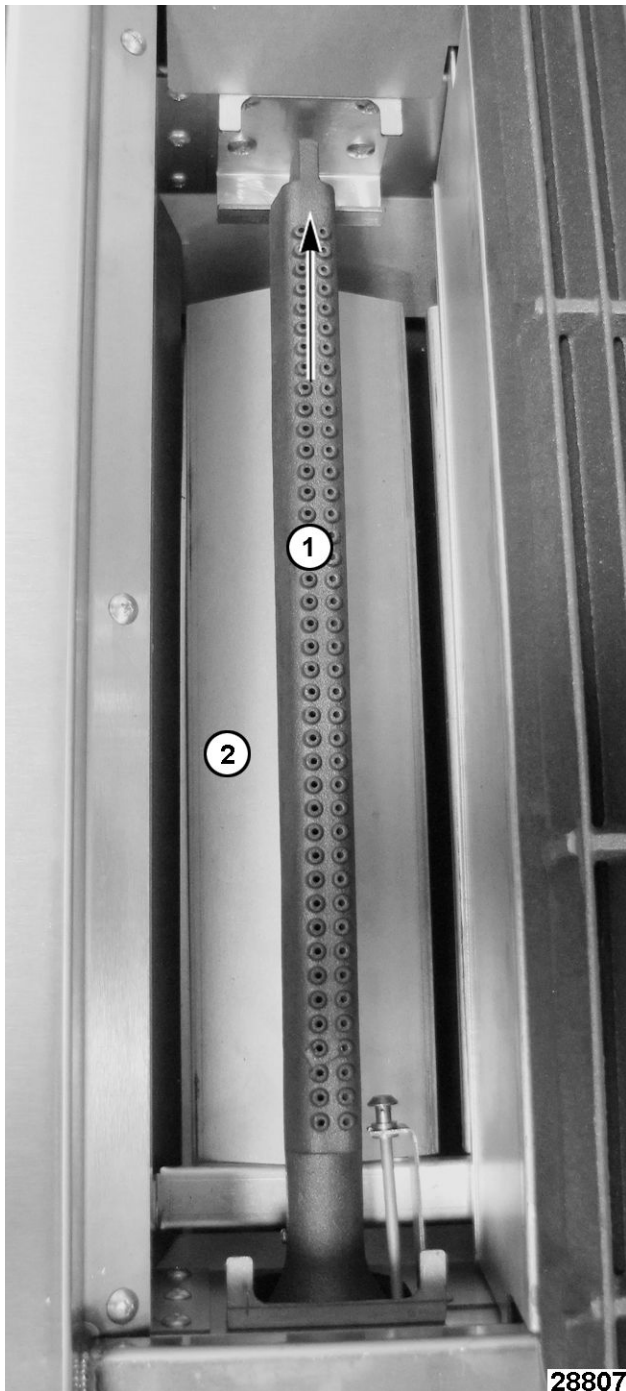

Fig. 60
3. Remove burner (1, Fig. 60) and deflector (2, Fig. 60) by lifting at the rear of burner.